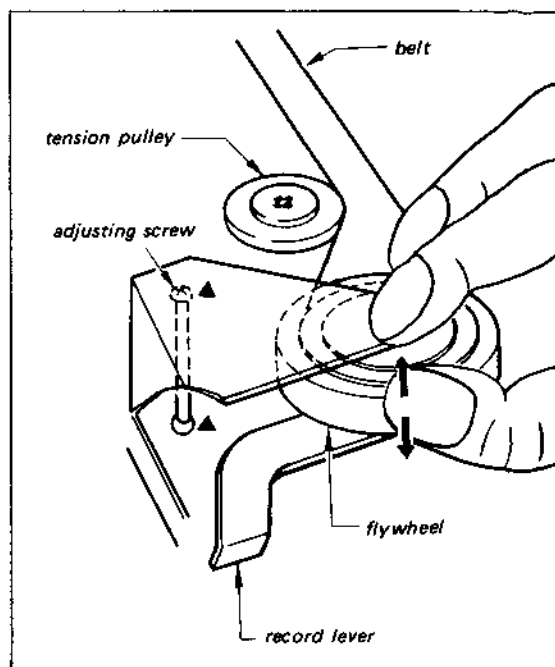

Fig. 3-6 Flywheel end-play adjustment
1. In the STOP mode, check the end play of the flywheel. There should be 0.2 mm to 0.5 mm end play between the flywheel and its housing as shown in Fig. 3-6.
2. End play can be changed by turning the screw marked ▲ in Fig. 3-6.